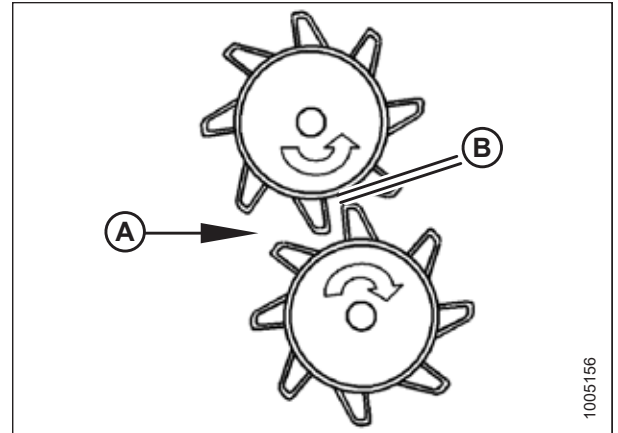

Figure 3.69: Roll Gap
- Refer to Figure 3.69, page 49: Confirm the roll gap (B) is 20 mm (3/4 in.).